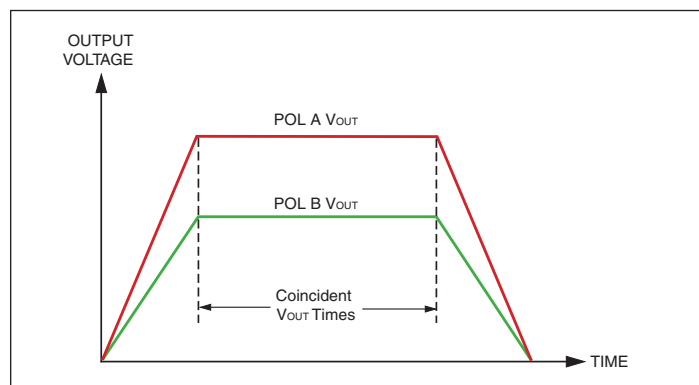
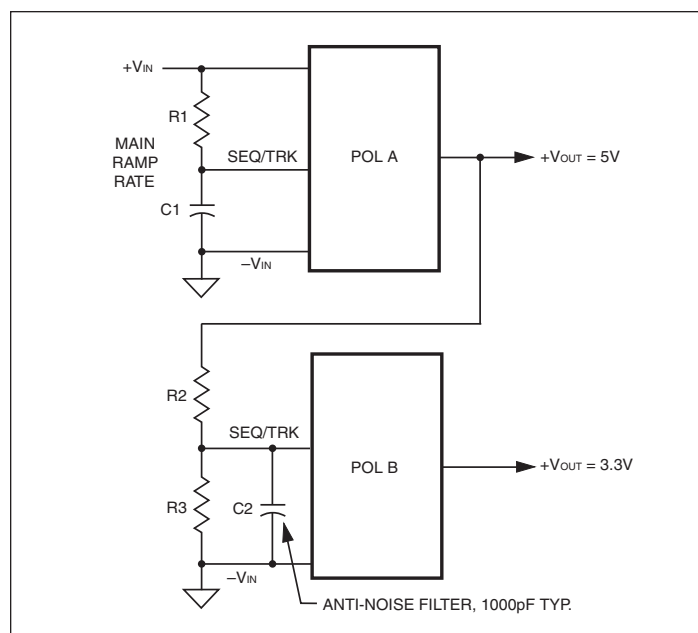

Figure 9. Proportional or Ratiometric Phasing (Identical Vout Time)
Figure 14. Proportional Phasing
Figure 9 shows two POLs with different slew rates in order to reach differing final voltages at about the same time.
Figure 14 shows both a RC ramp on Master POL A and a proportional track-ing divider (R2 and R3) on POL B. We have also added an optional very small noise filter cap at C2. Figure 14's circuit corresponds roughly to Figure 9's timing for power up.
- [7] The Sequence is a sensitive input into the feedback control loop of the converter. Avoid noise and long leads on this input. Keep all wiring very short. Use shielding if necessary. Consider adding a small parallel ceramic capacitor across the Sequence/Track input (see Figure 14) to block any external high frequency noise.